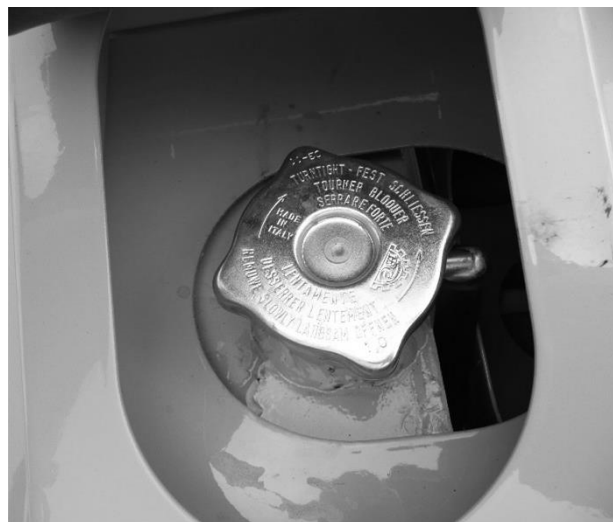

Figure 10.1-3 Checking the radiator cooling liquid
6. If the motor compressor is equipped with a liquid-cooling diesel engine, check the level of the cooling liquid contained in the radiator (Figure 10.1-3).
WARNING: the radiator plug (Figure 10.1-3) must never be removed when the engine is hot: this would cause a sudden outflow of liquid which might cause severe scalding. Topping up - if required - must be made by means of a blend of water and anti-freeze liquid, in the percentage indicated on the container of the latter.